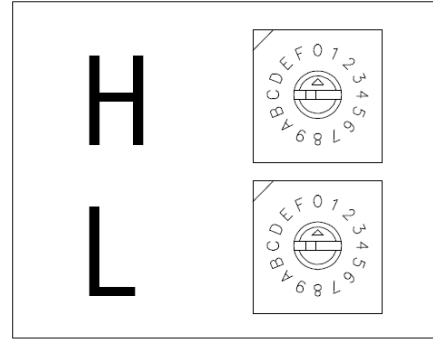

Figure 10: Driver Address Dials
Addresses are set through the S2 (L) and S3 (H) rotary switches on the driver (**Figure 10**) using a small flathead screwdriver. For address 11, set the H switch to "0" and the L switch to "B".